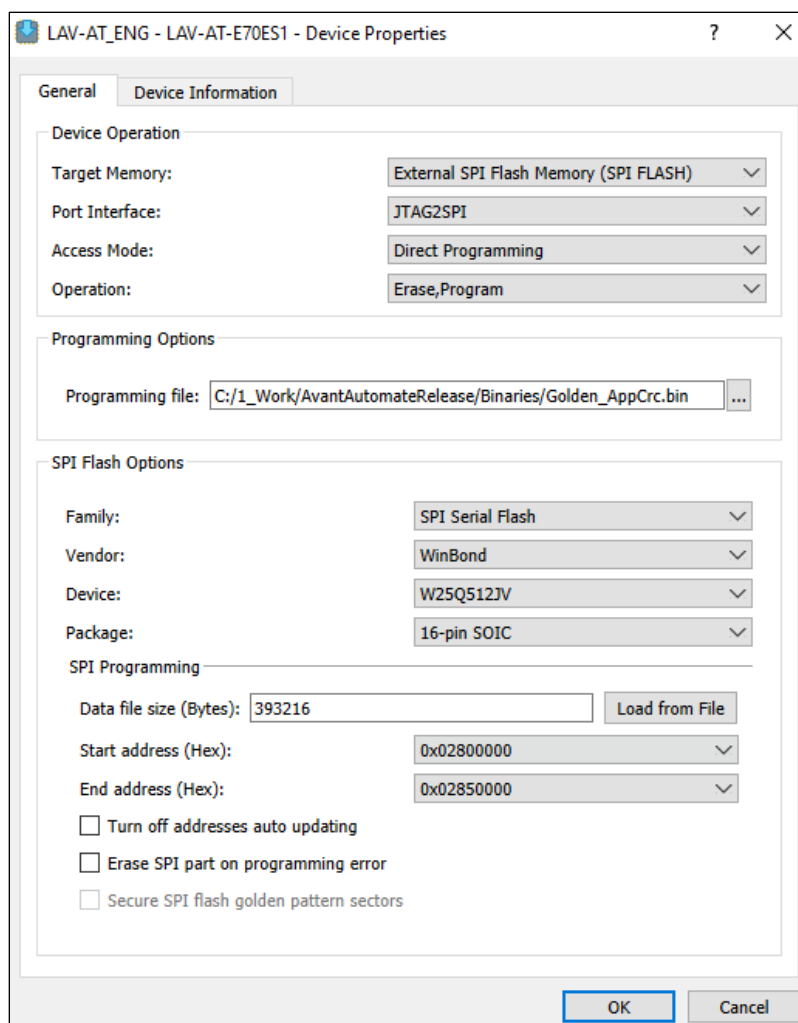

Figure B.8. Radiant Programmer – Program Golden Main System Binary
12. To program the Golden Main System binary, select the *Golden_AppCrc.bin* binary file under the Programming Options. Refer to Figure B.8. Make sure that the following addresses are correct: